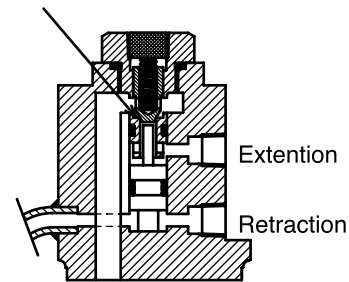

Fig2
- ③ In order to release pressure remained in the outrigger system, stop the engine and shift the manual levers for extension/retraction of outriggers.
(2) Starting inspection
- ④ Remove the retraction pipe to check if oil overflows continuously out of the cylinder port of retraction side. At the same time, check also that how far the rod shifts. If no oil flows out of the port of lowering side, the cylinder is normal.
- ⑤ Next, remove the extension pipe, and if oil overflows continuously out of the pilot check valve port of raising side, there may be faulty on the seat surface of pilot check valve (refer to Fig. 2). In addition, check how far the cylinder sinks simultaneously.